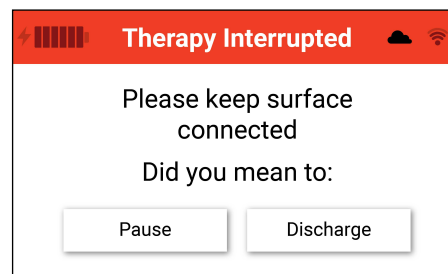

Figure 23. Keep Support Surface connected prompt screen
1. If the support surface is disconnected while running, a prompt will appear with a five (5) second auditory tone. Reconnect the support surface into the front of the controller or make a selection to dismiss the prompt. Do not use the button to insert the connector. Push until there is a click. (Fig. 23)
2. If the Keep Support Surface Connected Prompt (Fig. 23) is not addressed within five (5) minutes, an auditory alert will occur and the support surface disconnected alert screen will for repeat every hour that the alert is active. (Fig. 23)